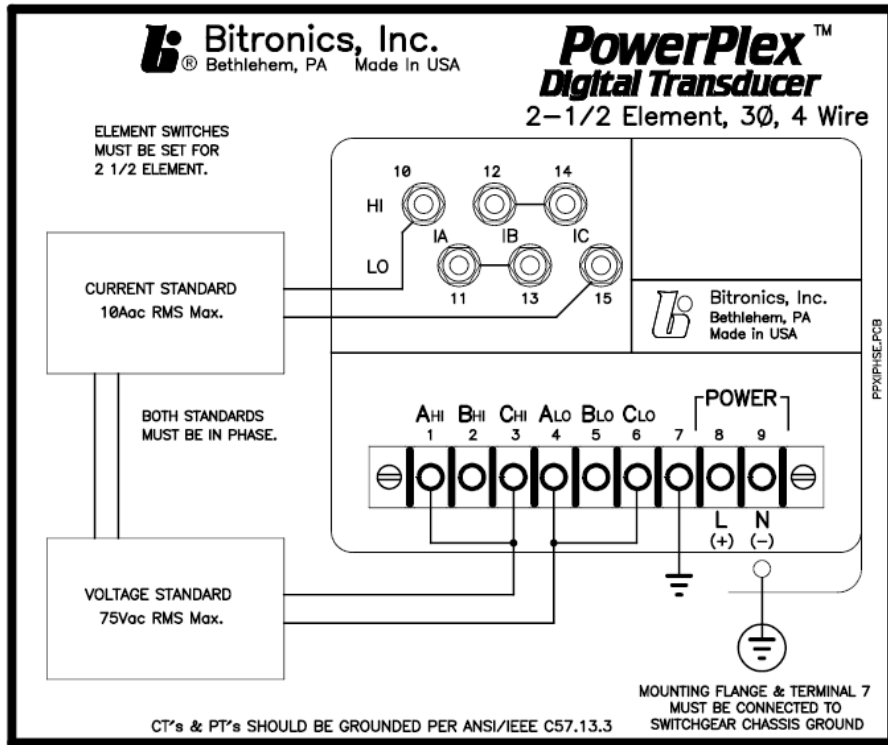

Figure 10 - Connection for MTW_N3B testing in 2 ½ Element (WYE) Mode with Single Phase Source.
- 2b. When units set to 2½ Element (WYE) Mode are connected to a single phase voltage source, they should be connected as shown in Fig 10. Note that the internally generated phase B voltage will be the sum of phase A and phase C. The input voltage should be kept below 75V ac in this single phase configuration, in order to keep from exceeding the 150V ac maximum input level on phase B. Additionally, when testing single phase, the phase C current should be reversed to keep the phase B Watts value the same polarity as phase A and C. Note that with this configuration, the total WATTS and VARs will be 4X the per-phase values. These restrictions are only for single phase testing.